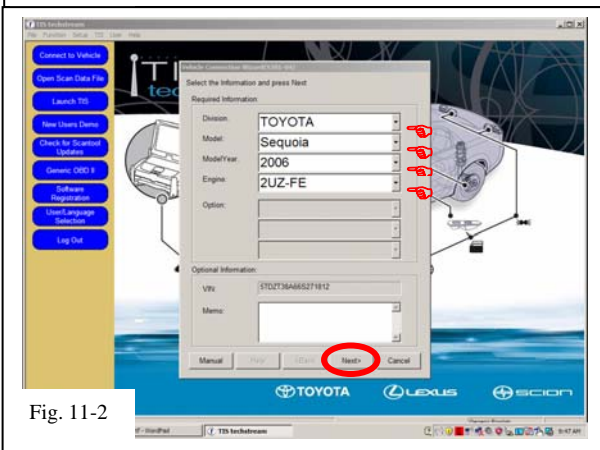

Fig. 11-2
- (e) Confirm that the information displayed on the Vehicle Connection Wizard is correct. If not, make the appropriate selections from the Drop Down Menus then click “Next”. (Fig. 11-2)